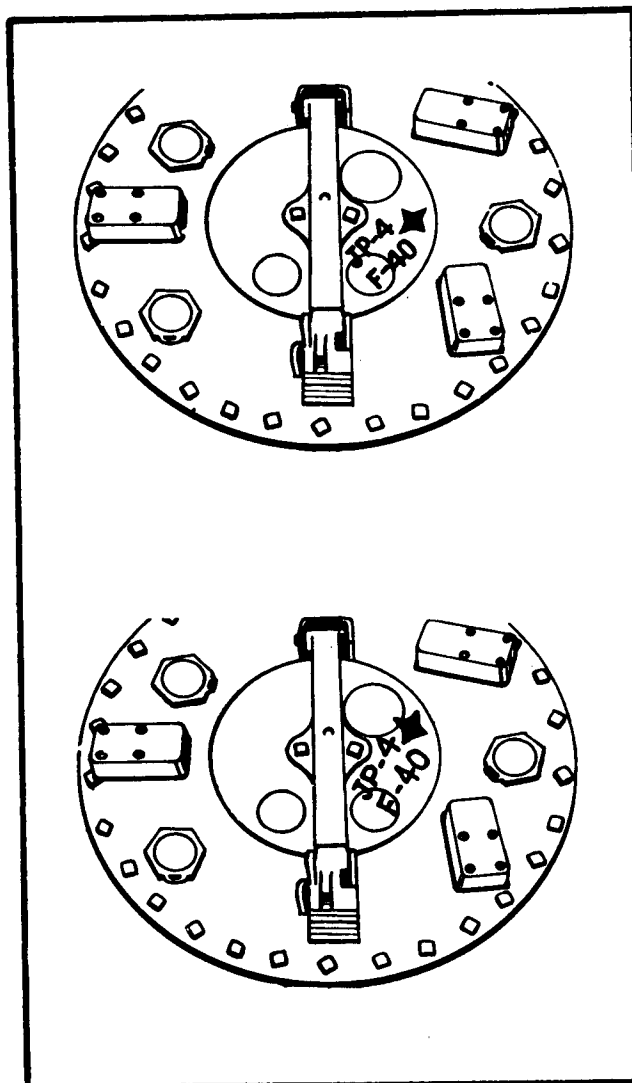

Figure 3-1. Manhole Cover Markings
3-55. MANHOLE COVER AND NOZZLE MARKINGS. Application and size of manhole cover and nozzle markings. These markings shall be applied to all manhole covers and nozzles on aviation and rocket fuel and oil dispensing units. Oil dispensing units may be marked by stencilling with black paint, color number 17038 or using reflectorized markings listed in Section V, paragraph 5.1.b. (Reference figure 3-1 and 3-2.) Jet fuel and AVGAS dispensing units will be marked as follows:
ing units shall be applied utilizing a red background with silver letters and numbers as illustrated in figures 3-1 and 3-2.
b. **AVGAS DISPENSING UNITS** - Manhole cover and nozzle markings on AVGAS dispensing units shall be applied utilizing a purple background with silver letters and numbers as illustrated in figures 3-1 and 3-2.